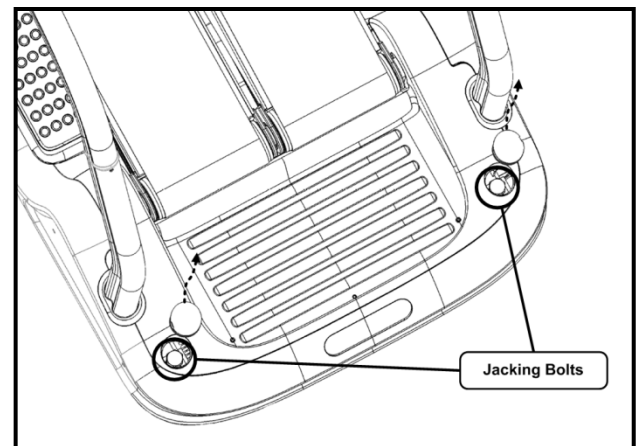

Fig. 31
29. Dislodge the rear step plugs (Fig. 31) to expose the wheel jacking bolts. Turn the bolts in a counter clock direction to retract the rear wheels into the base and rest the machine on the rear stabilizing feet.